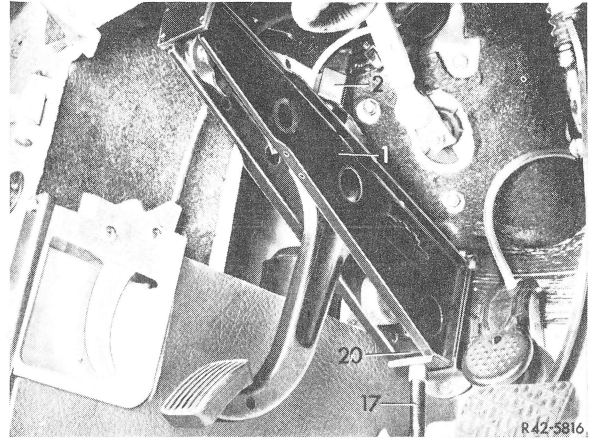

Fig. 6
- 11 Loosen plug connection on switch (2) for parking brake warning light (Fig. 6).